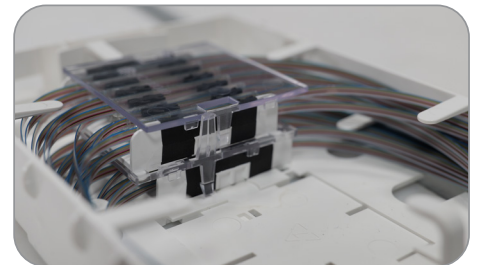

Figure 13
13. Install splice module cover plates on top of all layer two splice modules (**Figure 13**).